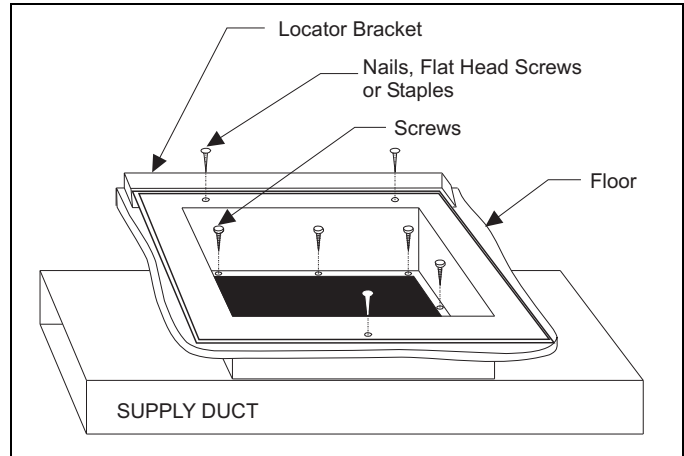

FIGURE 6: Duct Connector Screw Attachment (7990 Series)
3. Place locating bracket (supplied with the duct connector) to the back edge of the floor opening. See Figure 6.